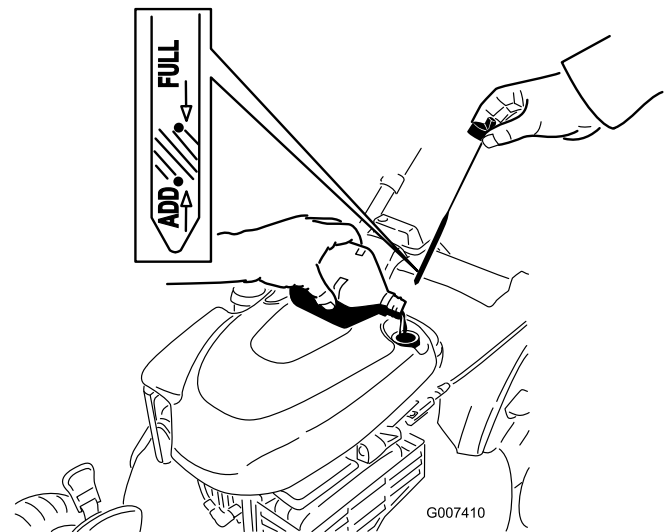

Figure 13
1. Remove the dipstick, wipe it clean, and fully install the dipstick (Figure 13).
2. Remove the dipstick and check the oil level (Figure 13). If the oil level is below the **Add** mark on the dipstick, slowly pour oil into the oil fill tube to raise the oil level to the **Full** mark on the dipstick. **Do not overfill.** (Max. fill: 20 oz., type: SAE 30 detergent oil with an API service classification of SF, SG, SH, SJ, SL, or higher.)